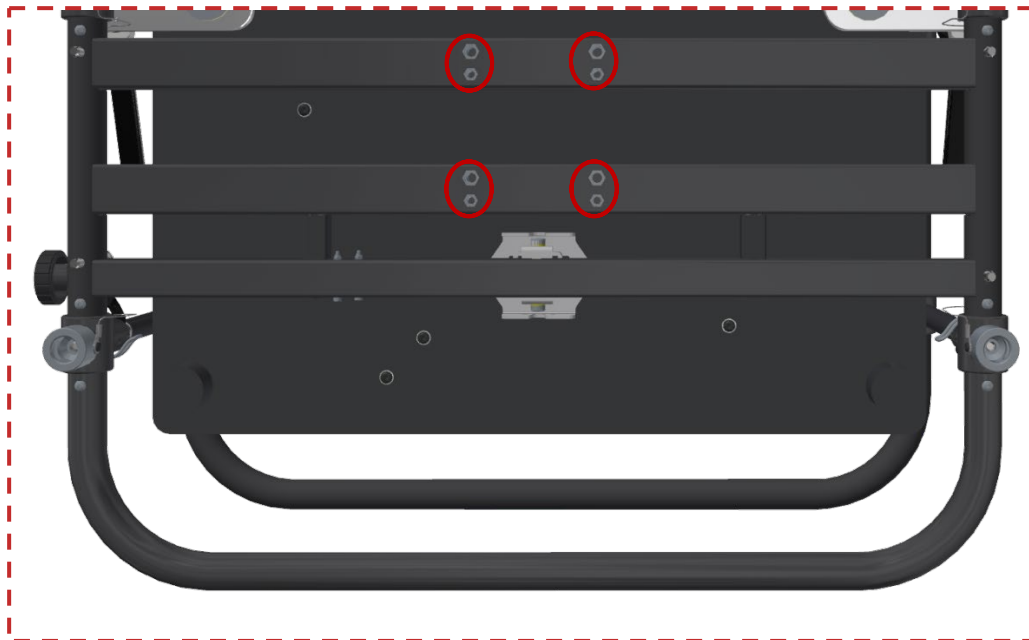
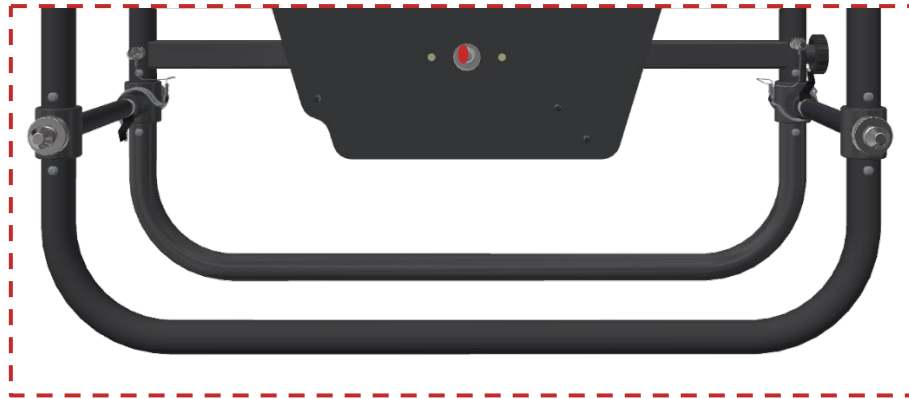

Figure 24 Nuts on front bottom side which are sealed with red colour wax
Figure 25 Nut on centre top side which is sealed with red colour wax
- On the three screws + nuts presented on the above two pictures (Figure 24 and Figure 25) red color sealing wax was applied to be sure that the nuts will always be on the same position and no one will try to tighten or loose them.
Except for the three nuts described on the previous section (see Figure 24 and Figure 25), please control, with corresponding tool, that all the other screws are properly tightened.